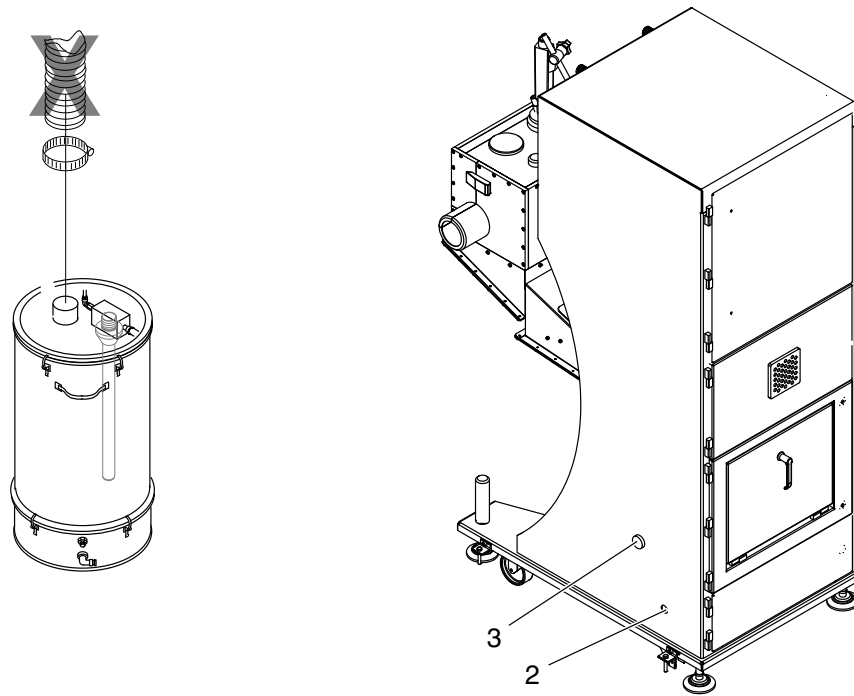

Fig. 3-12
5. Replace the blind fitting *Hopper* (2, Fig. 3-12) with the bulkhead gland found in a bag in the lower part of the system. Screw the bulkhead gland onto the system wall such that the smaller diameter points into the system.
7. Remove the blind fitting (3, Fig. 3-12) and save it for later use. The nut will be needed later.